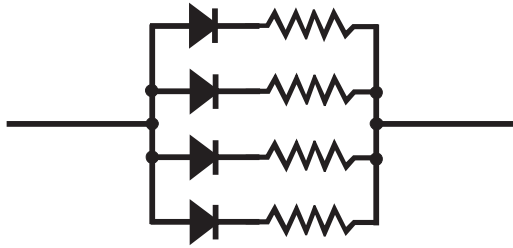

Fig. 4-12. Diodes in parallel, with current-equalizing resistors in series with each diode.
- Connect several diodes in parallel wherever a diode is called for in the circuit. *Current-equalizing resistors* are necessary (Fig. 4-12). The resistors should have a small ohmic value. The diodes should all be identical.